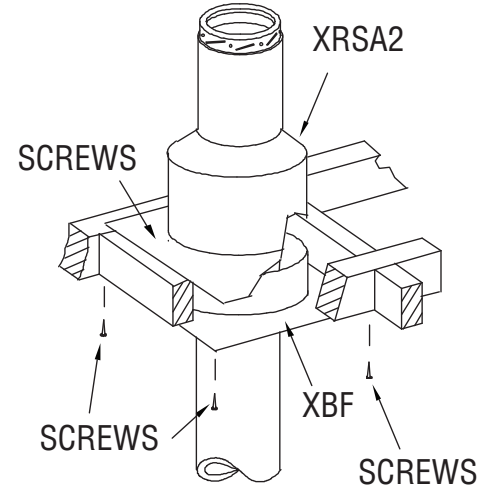

**Figure 6**
Step 3: From below push the square support into the framed opening. Screw finish trim (included) to the ceiling. Attach the support to the framed box using (12) - 3" spiral nails or #8 x 1 1/2" wood screws (see Figure 6).